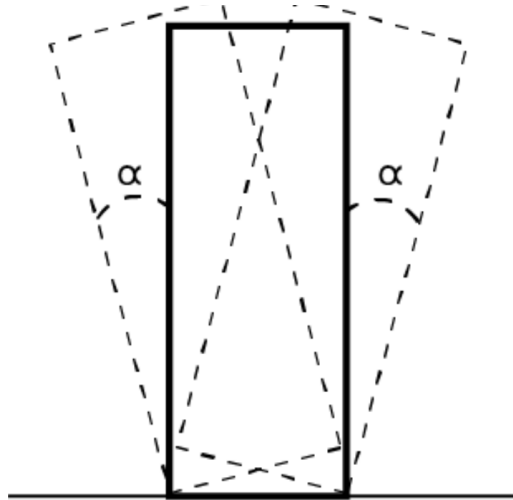

Figure 1-1
3. The cabinet's tilt angle must comply with the requirements shown in the diagram: with packaging, tilt angle $\alpha \leq 15^\circ$; after removing the packaging, tilt angle $\alpha \leq 10^\circ$. Refer to Figure 1-1: